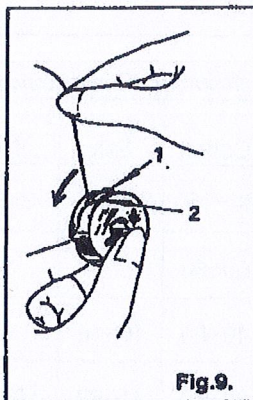

Fig. 9.
2. Pull thread into notch (1), and draw it under tension spring (2), Fig. 9.